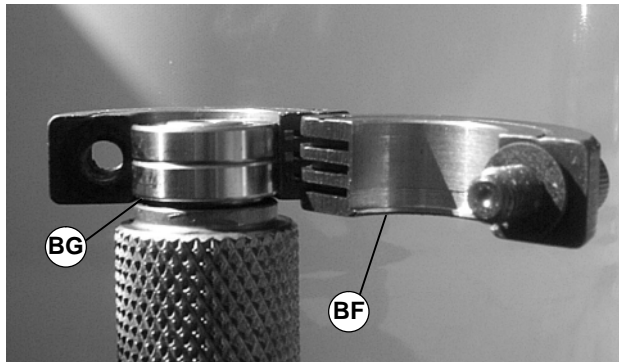

Figure 39
1. Place bearing removal tool (part # 450281) over bearing(s) with lip (BF of Figure 39) located in Bearing gap (BG) as shown.